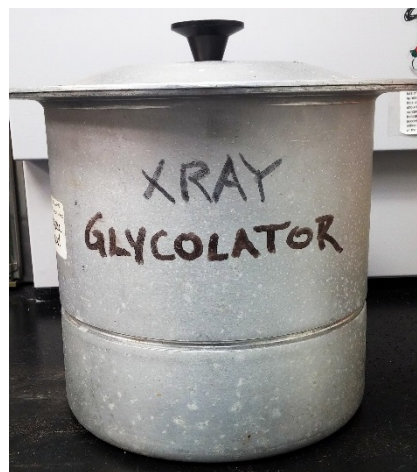

Figure 19: Glycolator.
1. Find the “glycolator” container (Figure 19) stored in the ICP preparation sink cupboard.